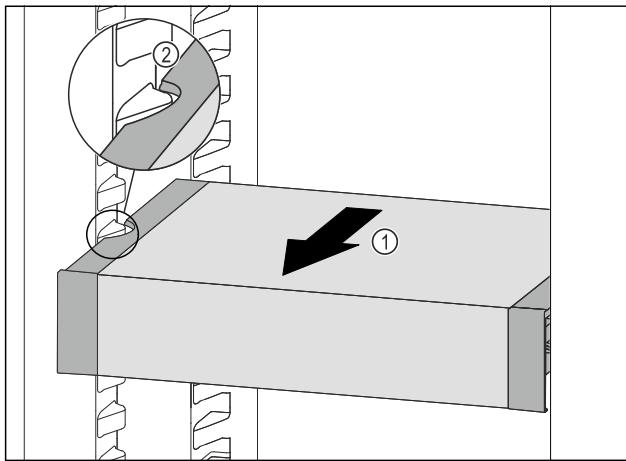

Fig. 130
- ▶ Pull VarioSafe forwards Fig. 130 (1) until the recesses in the side of the VarioSafe are at the level of the support rib in the fridge section. Fig. 130 (2)